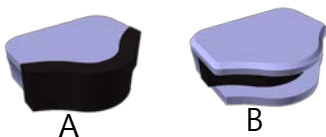

Figure 2
1. Choose an adapter head for the type of fiber to be tested. The SFI-10B is supplied with two adapters (as shown in Figure 2): (A) foam-covered, to accommodate 250 μm bare fiber and 900 μm buffered fiber; (B) foam-covered, for 3 mm and 2 mm jacketed fiber (i.e., pigtails and jumpers) or loose tube fiber.